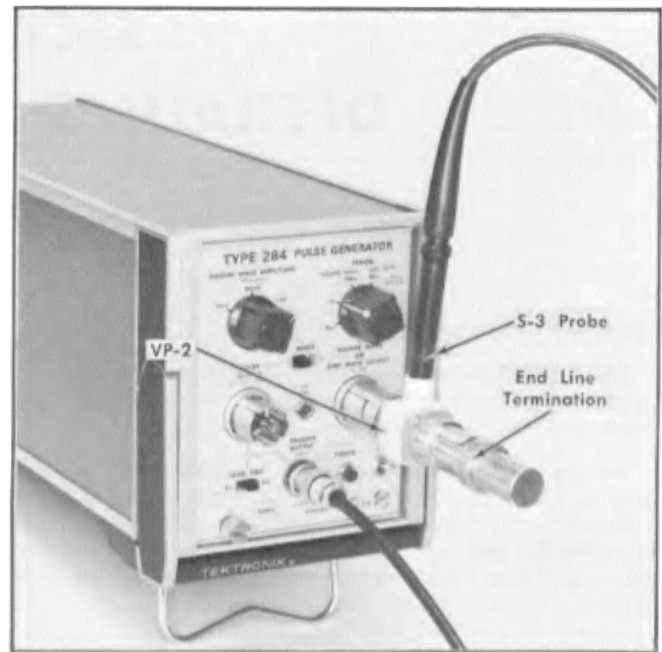

Fig. 2-2. S-3 probe - VP-2 connections.
The First Time Operating procedure utilizes, in addition to the Type S-3, a Type 3S2, Type 3T2, Type 561A, and Type 284. The Type 284 is used as a signal source with Type VP-2 and 50 Ω end-line termination. See Fig. 2-2.
7. Place the probe tip into the Type VP-2 as shown in Fig. 2-2. (Remove the insulating sleeve from the probe tip to fit it into an early model Type VP-2.) Terminate the VP-2 with GR874-W50B 50  $\Omega$  end-line termination (Tektronix Part No. 017-0081-00). Connect the Trigger output signal from the Type 284 through a 5 ns coaxial cable with BNC connectors to the External Input 50  $\Omega$  connector of the Type 3T2.